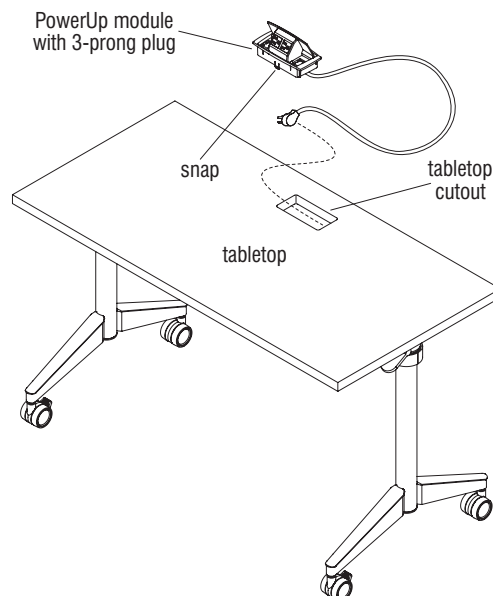

Figure 8
1. With the assembled table in the upright position, orient the PowerUp module as shown and route the 3-prong plug end down through the grommet hole cutout in the tabletop. Press the module down firmly into the cutout to secure in place, making sure the front and rear snaps catch under the cutout bottom edge of the tabletop (Figure 8 & Detail F).
5. The PowerUp module may be removed without tools by squeezing the front and rear snaps located on the module under the tabletop while pushing up the module (Figure 8).